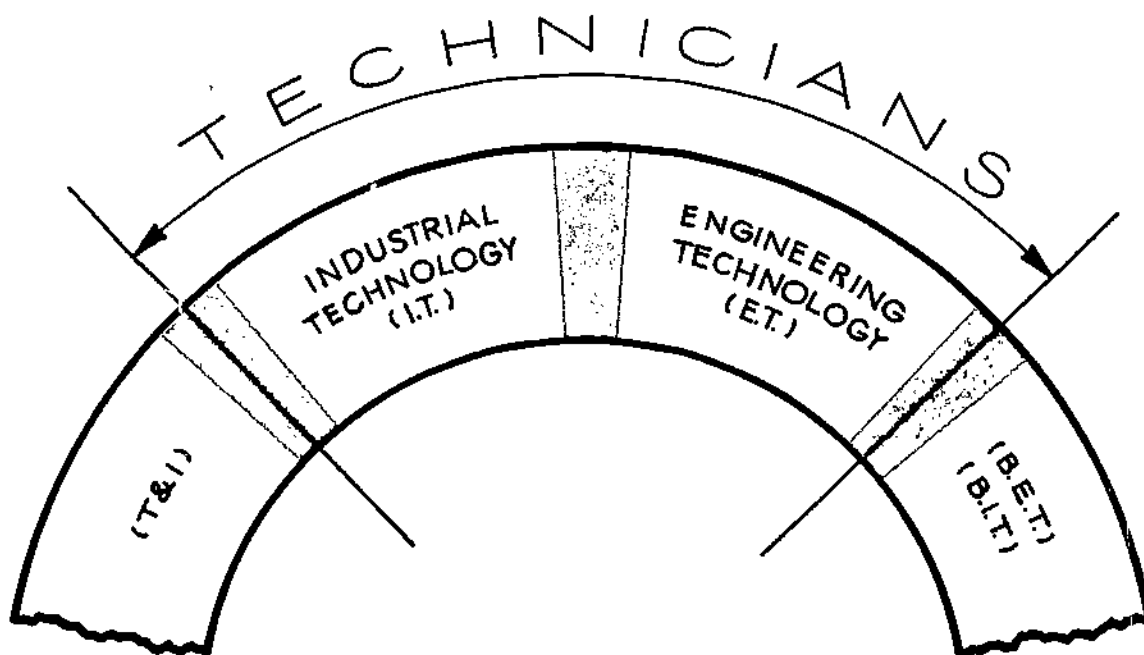

FIGURE 2
The two classifications, (ET) and (IT), overlap, as illustrated in Figure 2. This publication will define and describe the median areas of the classifications which are most representative.